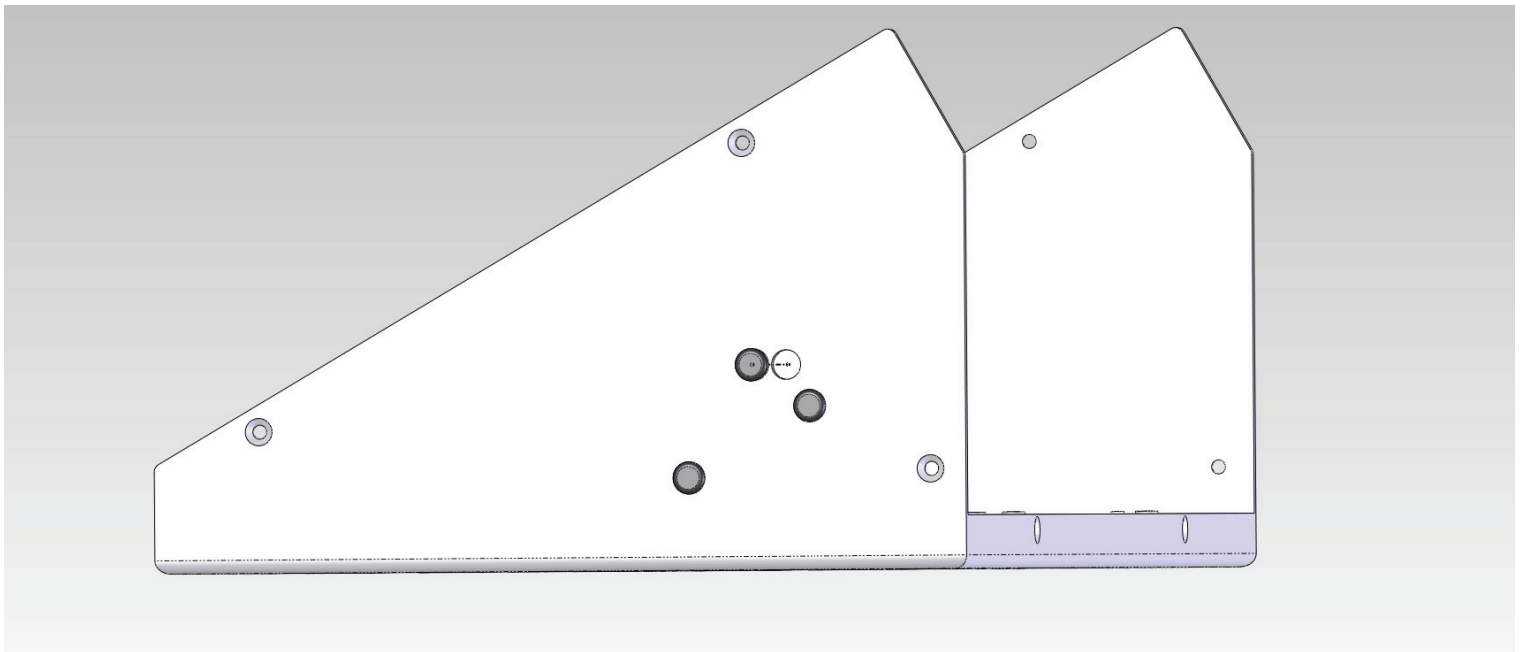

FIGURE 1. IP-1616/C-6200 Case Top with Rubber Plugs
3. Remove the **rubber plugs** from the case top. See Figure 1.